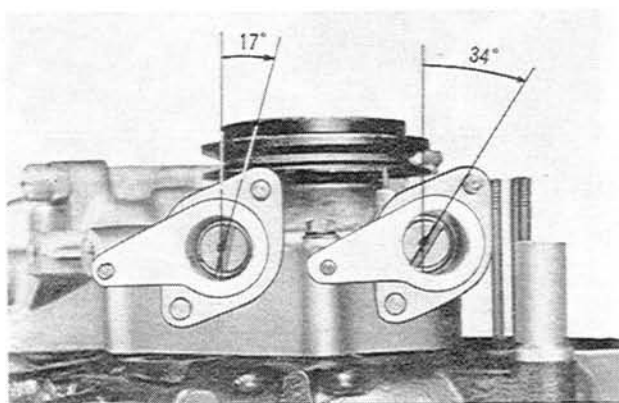

Fig. 1-102 Position of distributor socket
3. Install the leading side distributor socket through the gasket to the front housing so that the groove on the upper side of the drive shaft points about  $17^\circ$  to the right against the longitudinal axis of the engine, as shown in Fig. 1-102.